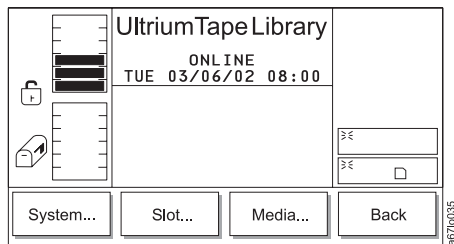

Figure 4-29. Library Submenu
2. Press the button below the **Library** softkey. The Library Submenu displays (see Figure 4-29).